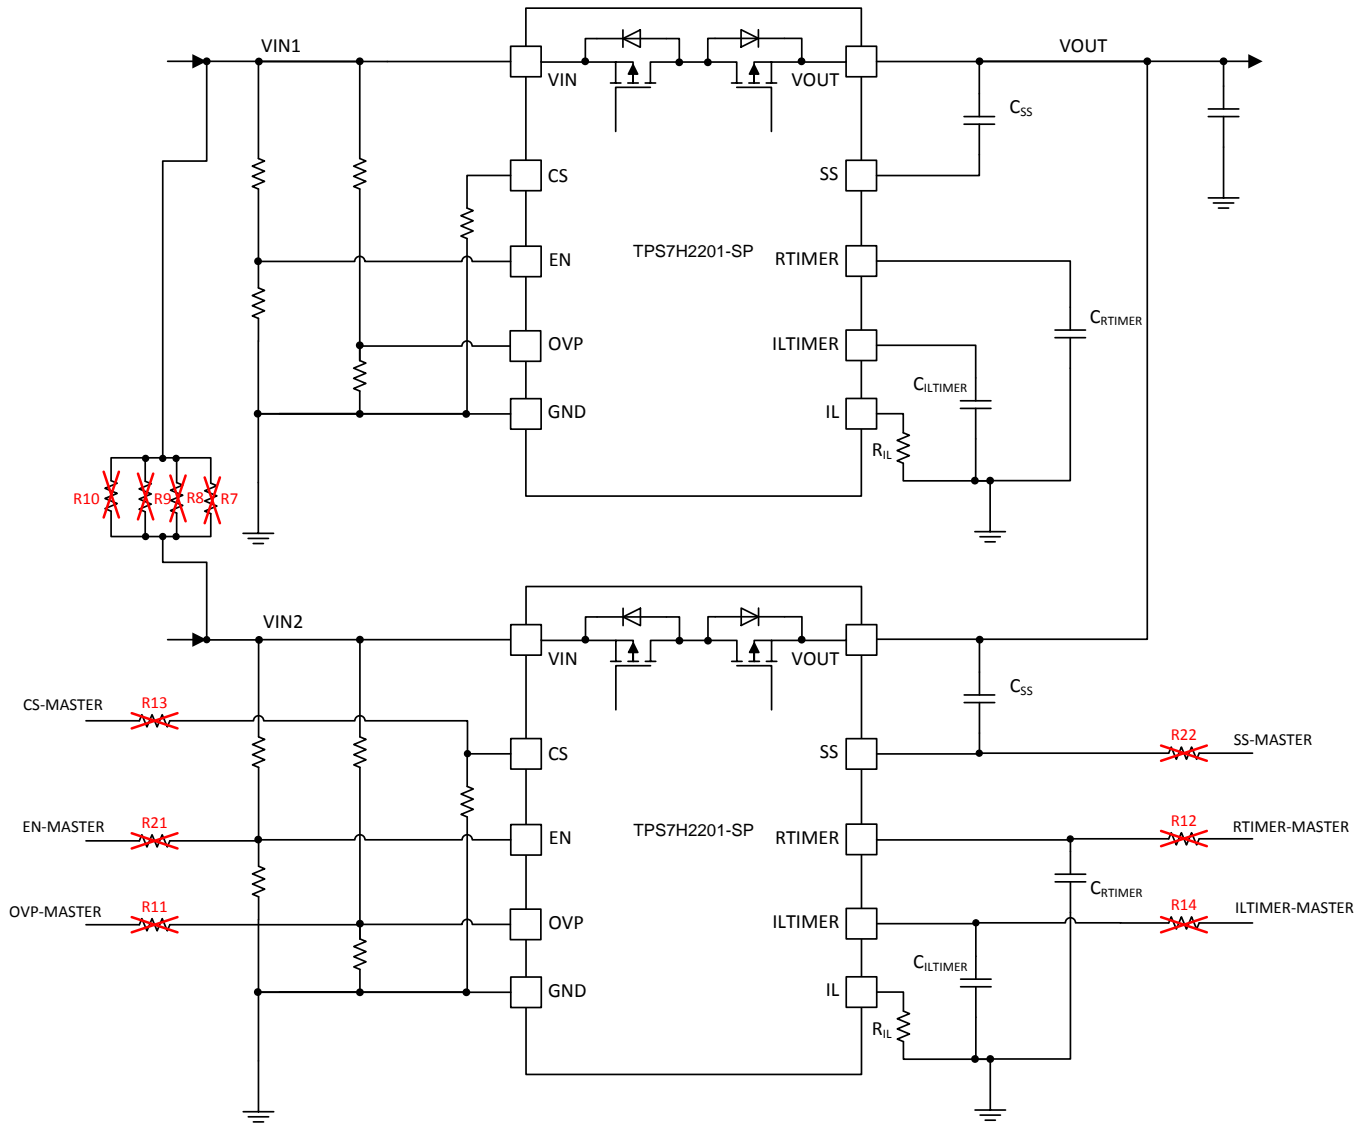
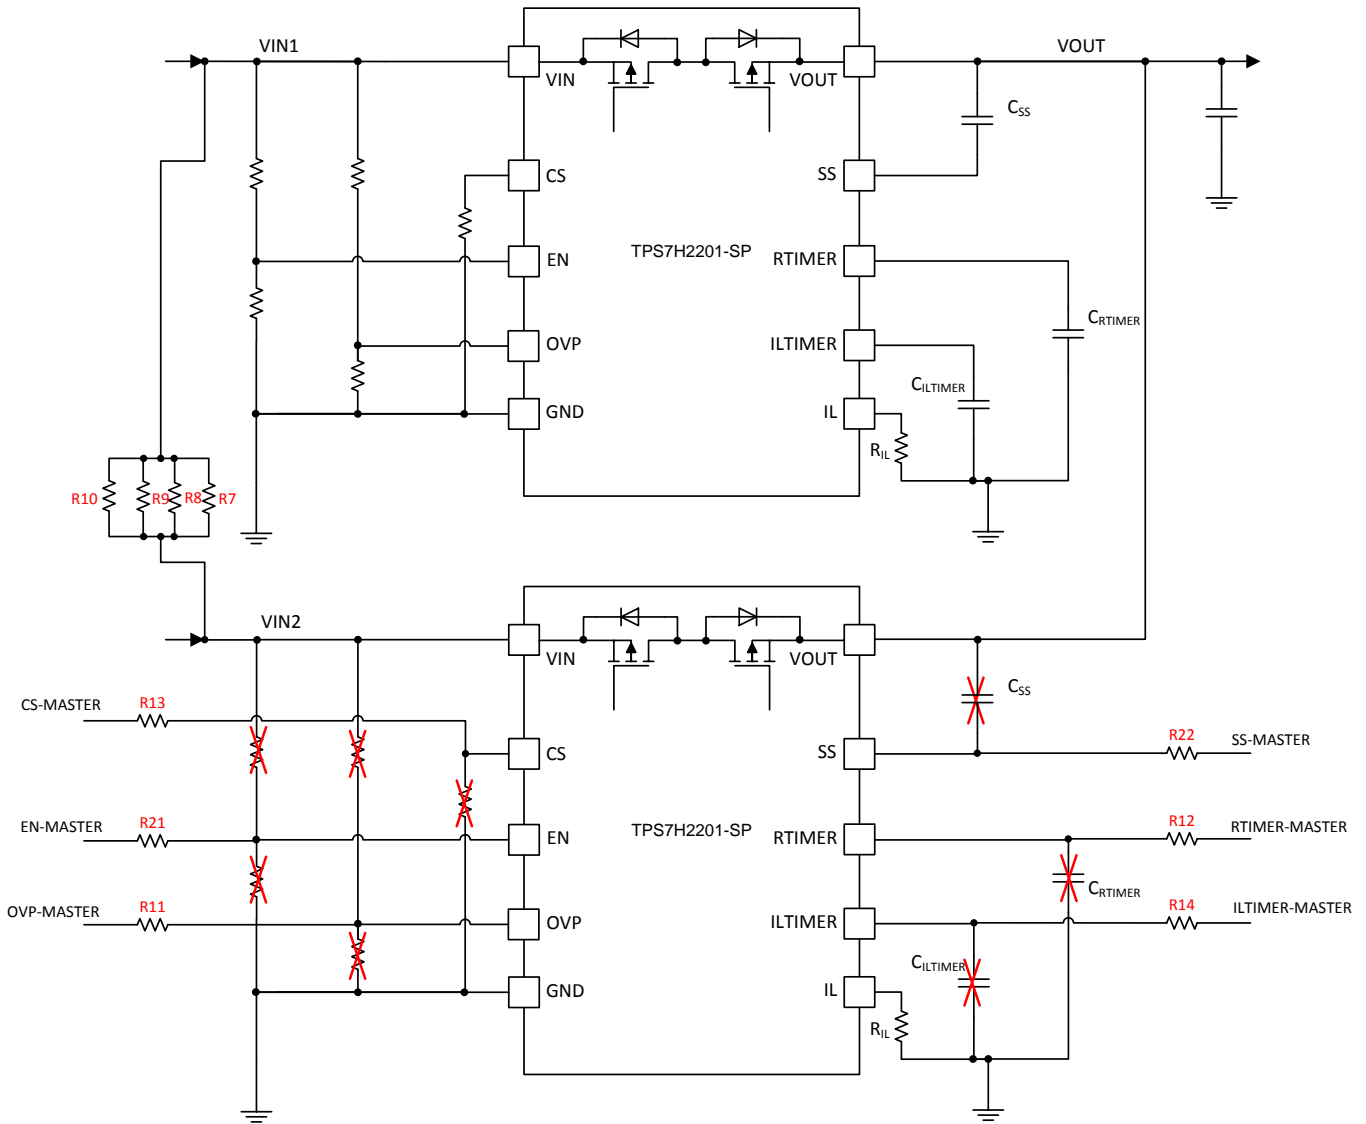

Figure 2. Redundancy Configuration for TPS7H2201EVMCVAL-D
Figure 3. Parallel Configuration for TPS7H2201EVMCVAL-D
2. **Parallel operation** - In this configuration, both switches will have the same VIN source as well as a common VOUT. To connect the VIN for both switches, there are footprints for 4, size 2512, 1-W, 0-Ω resistors (R7, R8, R9 and R10) in parallel that will need to be populated. In addition, when in parallel application, the master load switch (U1) must drive the EN, OVP, CS, SS, RTIMER and ILTIMER pins of the slave device (U2). As a result, there are footprints for 0-Ω resistors (R21, R11, R13, R22, R12 and R14 respectively) that need to be populated to connect these pins from one device to another. The passives for U2, except for the IL pin, that are populated by default for redundancy application would also need to be removed for parallel operation. Figure 2 and Figure 3 show the redundancy and the parallel operation applications highlighting the all the resistors previously mentioned.